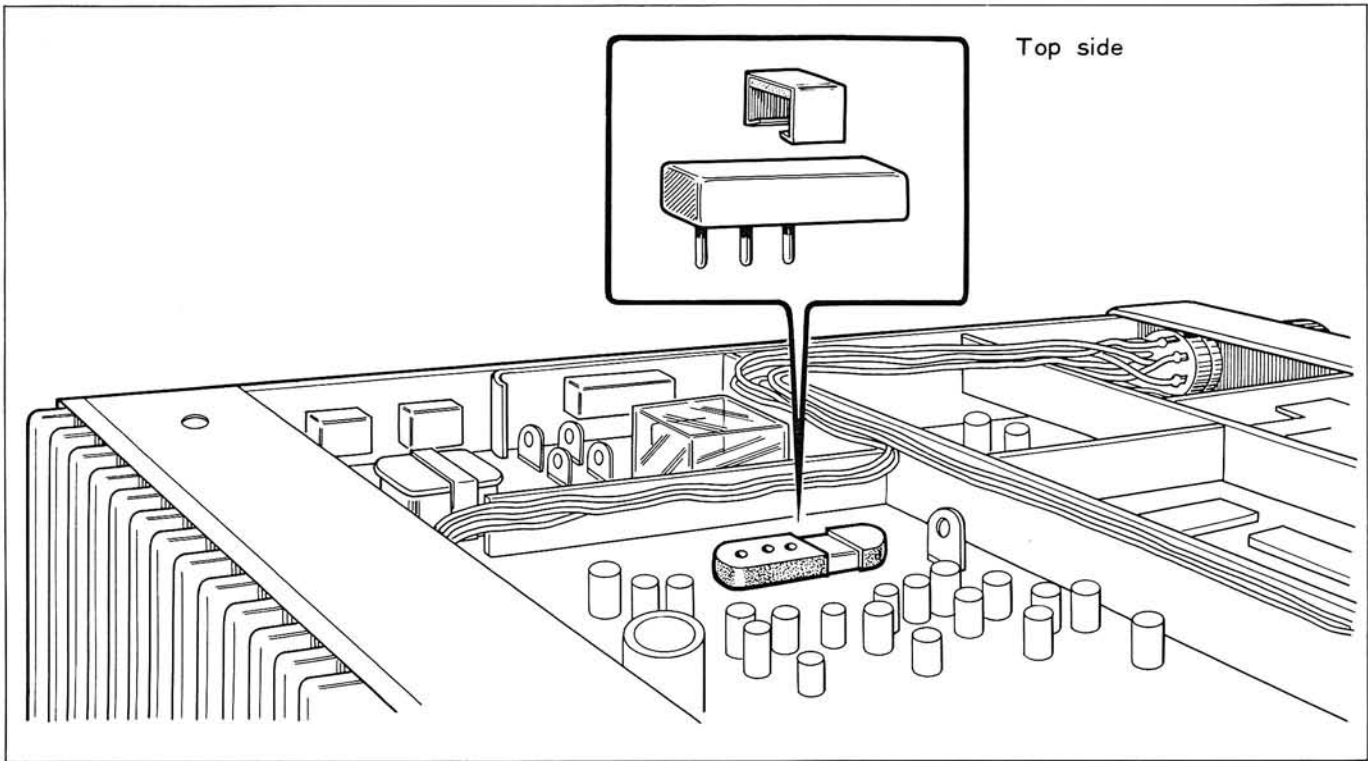

Fig. 10 How to Install the Tone Oscillator Module
In the transmit mode of operation, your transceiver superimposes an additional tone burst signal when tone burst access is desired. The tone burst signal is generated for about 0.5 seconds when a tone oscillator module (option) is plugged into the monofork socket on the TX unit (X56-1230-10) and the microphone push-to-talk switch is depressed for transmit as illustrated in Fig. 10. For example, if you make use of a repeater station which receives a 146.34 MHz incoming signal, transmits a 146.94 MHz signal, and uses a 1,800 Hz tone burst access, install an 1,800 Hz tone burst module into the TX unit as illustrated in Fig. 10. Second, set the TX OFFSET Switch ⑰ to -600. Then, you can operate through this repeater. You may select any desired tone burst frequency from those listed as options available for the TR-7400A in Table 2.